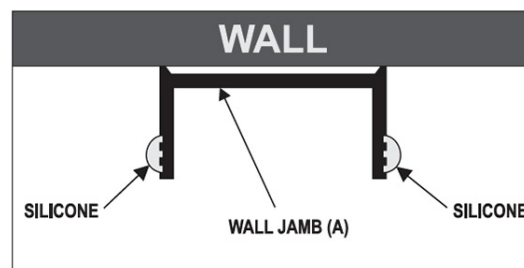

FIGURE 12
With all six Wall Jamb Screws (H) securely in place, apply bead of silicone to the outside ribbed edge of Wall Jamb (A) running the entire length of both sides. (See Figure 12)